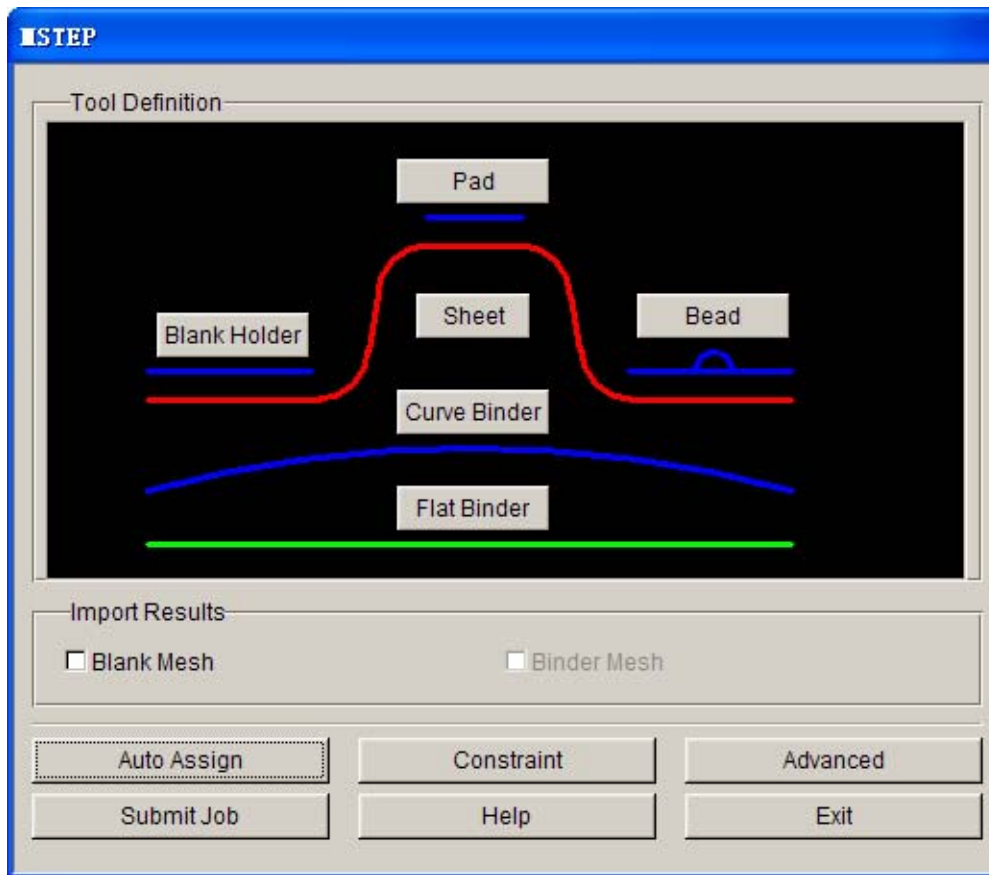

Figure 2.20: MSTEP GUI
2. The MSTEP GUI is illustrated in Figure 2.20.